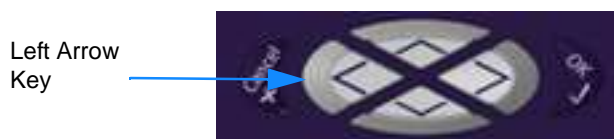

Figure 15 SmartClass Arrow Keys
- 3 Use the up and down arrows to highlight the configuration you want to delete, and then press the left arrow key provided on the front panel of the instrument (see Figure 15).